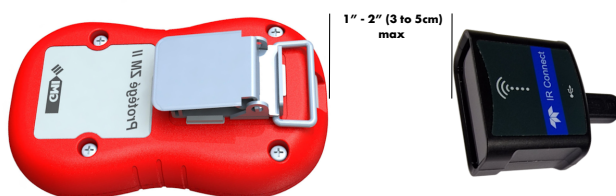

Figure 3-1: Connecting the Monitor to a PC
2. With the monitor powered on, lay it face down, positioning it within 1 to 2 inches (approximately 3 to 5 cm) in front of the IR Connect. Make sure that the IR interface port of the monitor has a direct line of sight to the front of the IR Connect. See Figure 3-1 for reference.